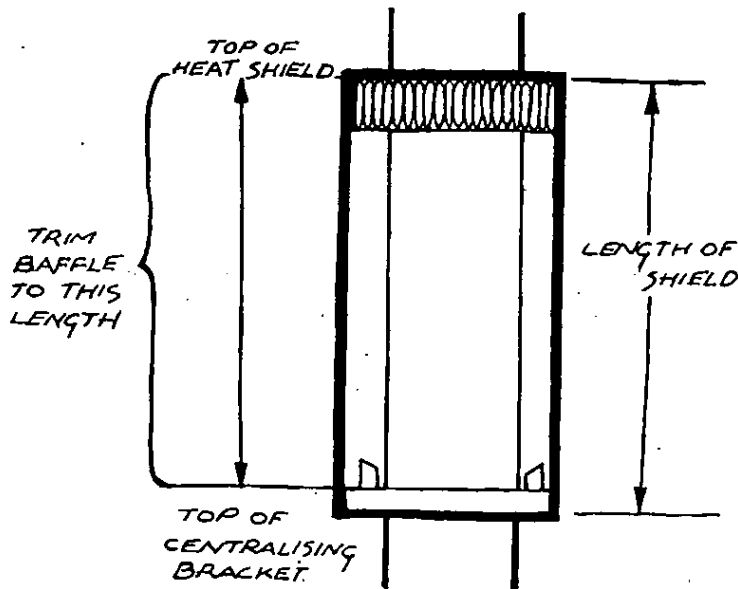

FIGURE 17
2.1.5 To ensure that the tops of the Baffle and Heat Shield are level with each other when finally installed, measure the length of the Heat Shield and subtract 19 mm (the height of the Centralising Bracket). Trim the Baffle to this dimension, Figure 17.